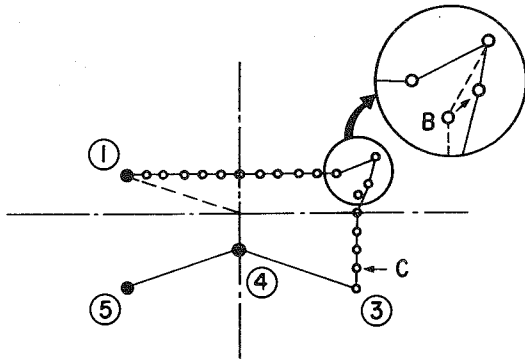
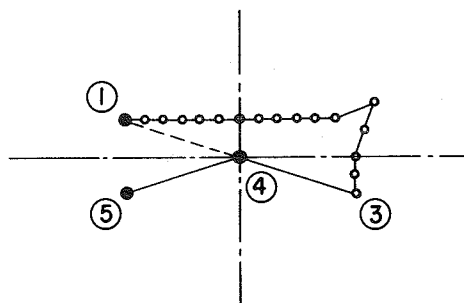

Fig. 5
Fig. 6
Step 17 Move the needle to position B show in Fig. 5. Then press the **8** and **2** keys until **02** [Point movement (absolute)] is shown by the **Function** LED. Then press the **Reset (Select)** key.
Step 20 Move the needle using the **Forward** and **Backward** keys, and confirm that the needle entry point has been moved as illustrated in Fig. 5.
Step 21 Move the needle to position C shown in Fig. 5. Then press the **8** and **2** keys until **11** [Point deletion (relative)] is shown by the **Function** LED. Then press the **Reset (Select)** key.
Step 23 Press the **Forward** key until the needle reaches position ③. Then press the **Counter (Set)** key.
Step 24 Move the needle using the **Forward** and **Backward** keys, and confirm that the needle entry point has been erased and the pattern after the deleted point has moved as illustrated in Fig. 6.
Step 25 Move the needle to position ④ shown in Fig. 6. Then press the **8** and **2** keys until **12** [Point movement (relative)] is shown by the **Function** LED. Then press the **Reset (Select)** key.